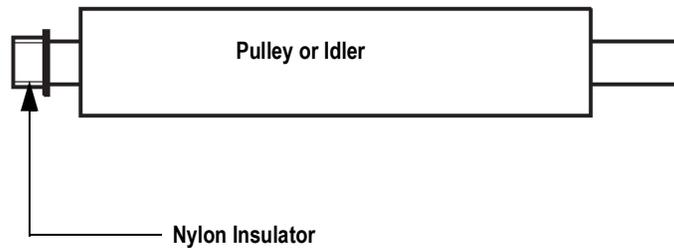

Figure 2-5. Sleeve Insulating Method
The method shown in Figure 2-5 requires machining the end of the shaft to a smaller diameter to allow space for a nylon plastic sleeve. The outside diameter of the sleeve is the same as the inside diameter of the bearing. This sleeve breaks the electrical connection between the bearing and the shaft, thus permanently preventing current flow.
- If the Sleeve Insulating method (Figure 2-5 on page 8) has been used, the setscrew of one of the bearings should be extended to make contact with the shaft. This may require drilling a small hole through the sleeve and inserting a sharp pointed setscrew.